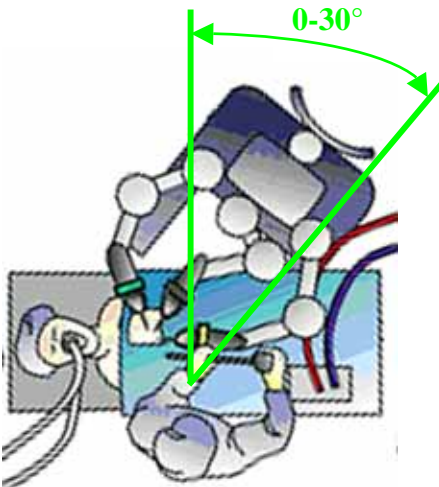

Figure 14: Patient Cart rolled in at a slight angle to accommodate for the natural position of the mitral valve in the patient’s chest.
- o The *da Vinci* Patient Cart is rolled in at a 0-30° angle to accommodate for the natural position of the mitral valve in the chest (depending on patient's anatomy). The center column should be lined up with the camera port in the right chest. [Figure 14]